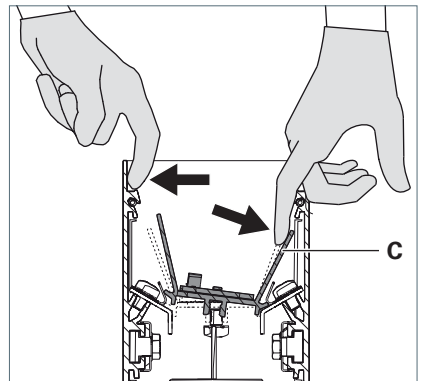

Fig. 13: Disengaging the reflector.
- ▶ Push one side wall of the luminaire outward by pushing the reflector **C** in the opposite direction at the same time, see Fig. 13.